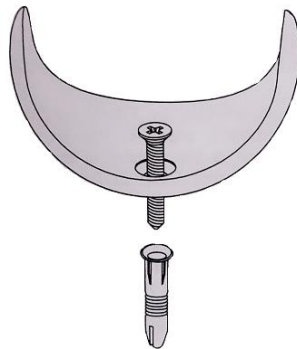

Fig.2
2. Install the holder as shown in Figure 2.